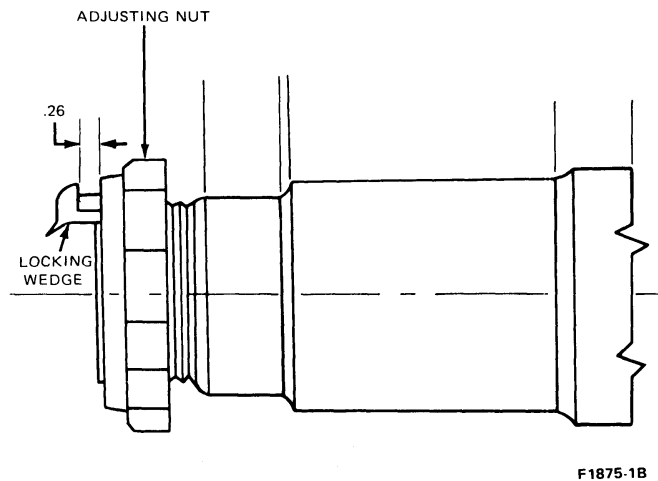

FIG. 6 Positioning Locking Wedge—E-250, E-350 and F-350
19. While rotating the wheel, tighten the adjusting nut to 163-189 N·m (120-140 ft. lb.) using tool OTC-1928. Back off the nut enough to get a 0.025-0.254 mm (0.001-0.010 inch) end play. This should require 1/8 to 1/4 turn. Position the locking wedge in the key way slot (Fig. 6). **It must not be bottomed against the shoulder of the adjusting nut when fully installed. Do not hammer on the locking wedge.** Use tool T75T-1170-A, giving the tool a light tap with a hammer.